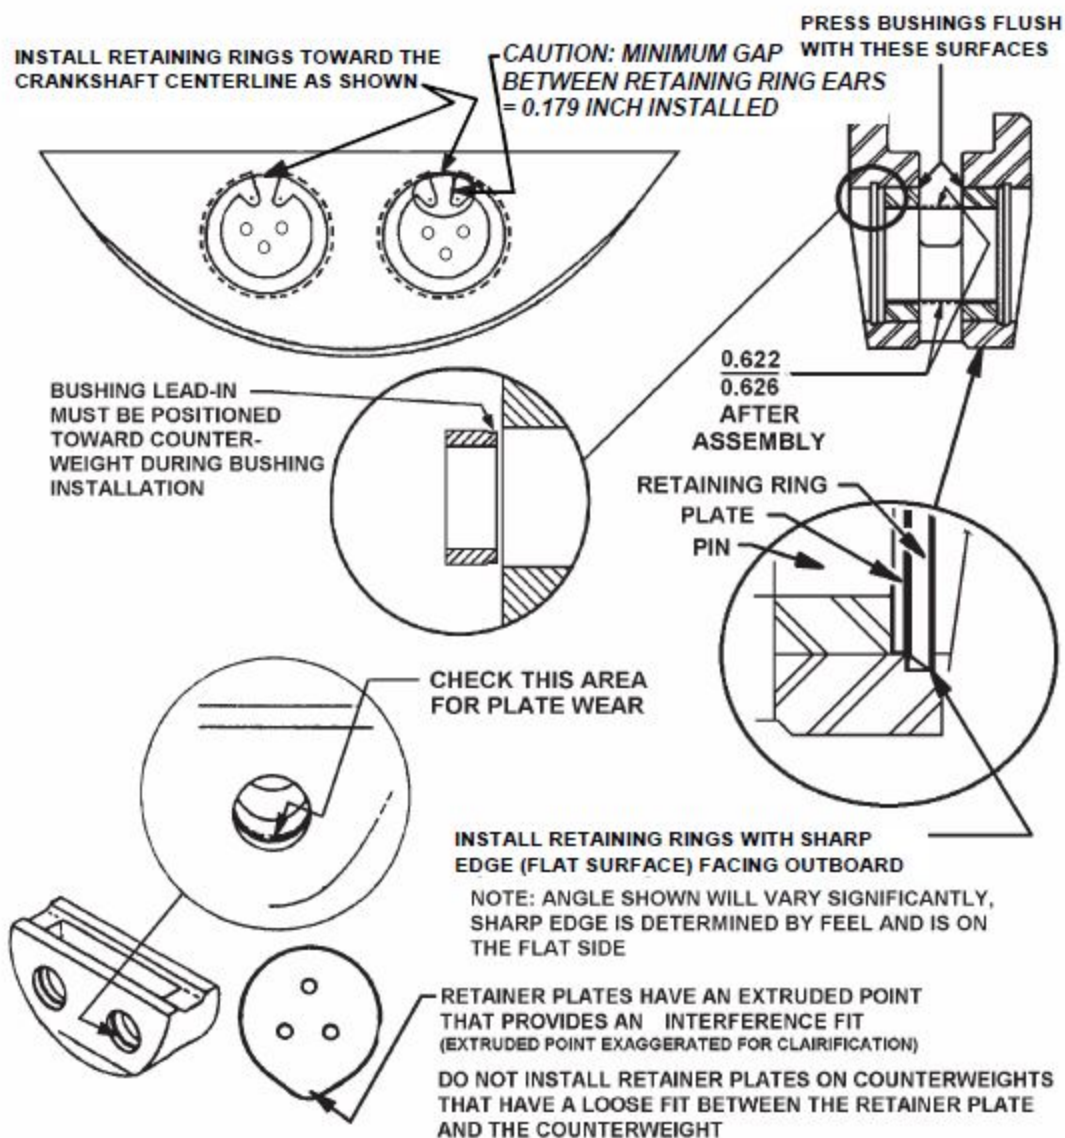

Figure 10-37. Counterweight Inspection, Repair and Installation
6. Install new bushings in the same positions as the old bushings on the counterweight assemblies (Figure 10-37) using the Borroughs Part No. 8077C Counterweight Bushing Removal/Installation Fixture. The bushing lead-in (Figure 10-37) must be positioned toward the counterweight during installation. Press the bushing flush with the surfaces as illustrated.